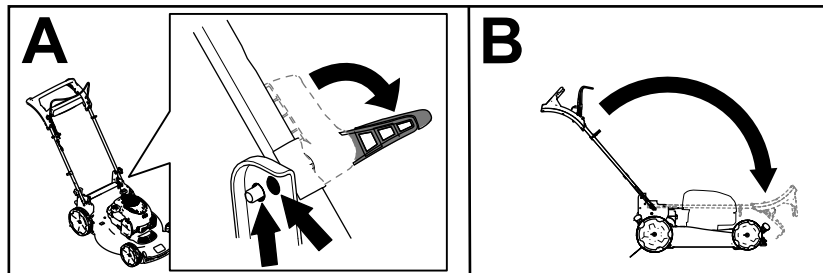

Figure 23
2. Disengage the handle locks until you can move the upper handle freely (A of Figure 23)
3. Fold the handle forward to the fully forward position (B of Figure 23).